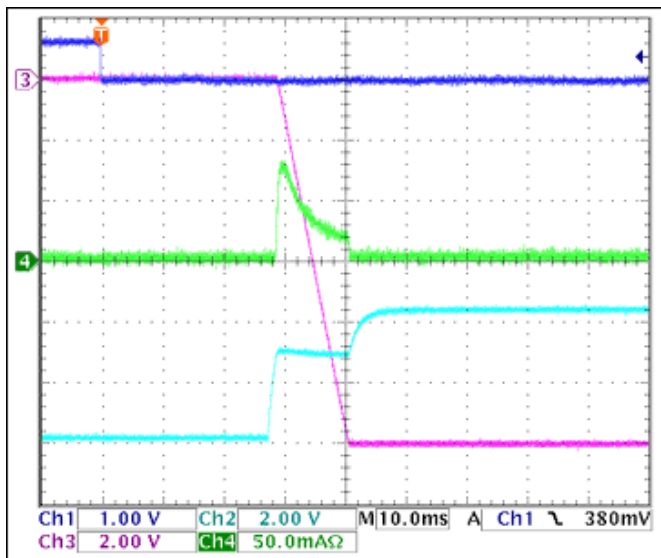

Figure 9. -12V turn-on waveforms, no load
-12V load-capacitor charging current $\approx 80\text{mA}$ (see **Figure 9**)